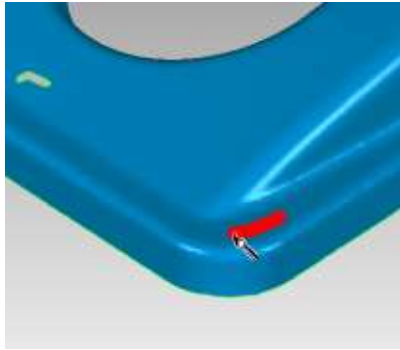

Figure 13
- Click the **Select by Angle Mode** icon on the **Right-Side Toolbar**, and select the flat area as shown in **Figure 13**.